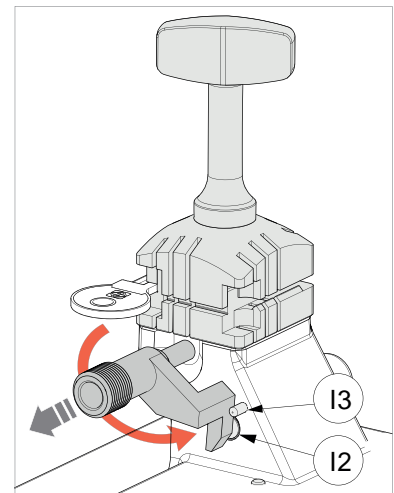

Fig. 31
NOTE: take the gauge back by hand to its original position before starting to read or cut the key (Fig. 31).
For all reading/decoding and cutting operations the gauge (I) must be taken back manually to its original position (Fig. 31 - in this position it covers the sensor (I2) which detects it).